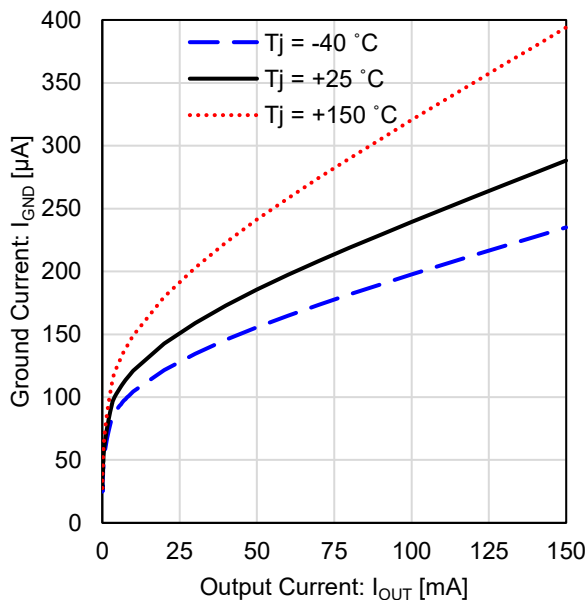

Figure 3. Ground Current vs Output Current
*magnification of Figure 3 at low output current